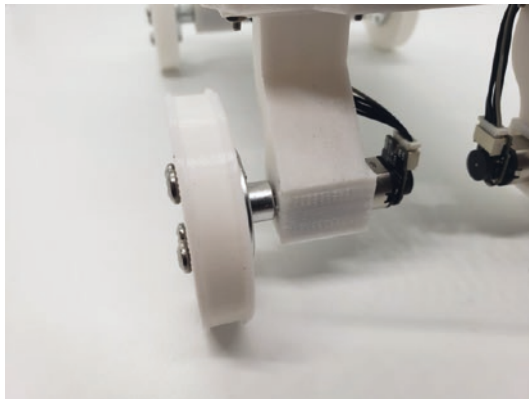

Figure 8-68. *Attach the wheels to the couplers*
23. Attach the four wheels to the motor couplers. See Figure 8-68.